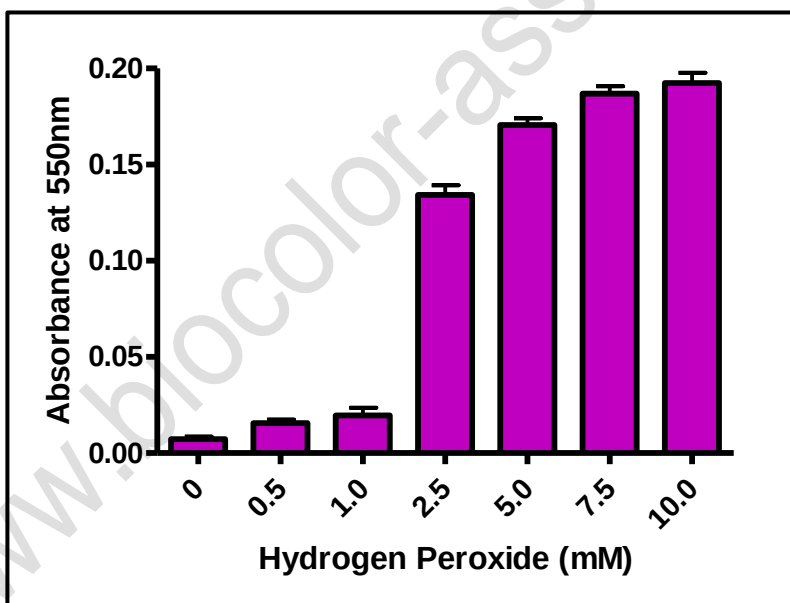

Fig. 1 Colorimetric Quantification.
3. Plot mean absorbance values $\pm$ standard error of the mean in a bar chart (Fig. 1) or as a percentage of the Positive Control absorbance value.